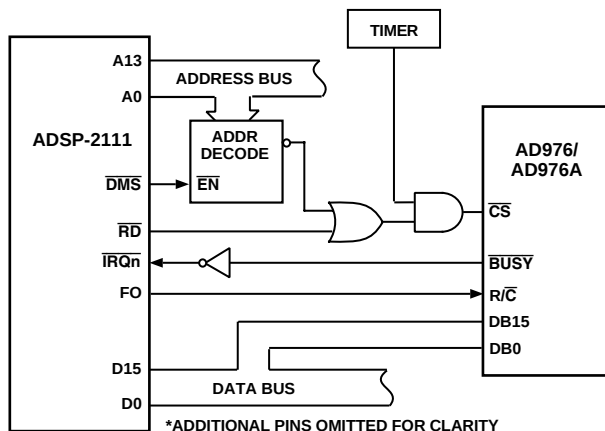

Figure 23. AD976/AD976A to ADSP-2111 Interface
Figure 23 shows an interface to the ADSP-2111 signal processor. In this example, $\overline{CS}$ is being used to control conversions and is generated by an external timer. A conversion is initiated each time the timer output goes low as long as you are not reading from the AD976/AD976A and while the Flag Output (FO) pin of the ADSP-2111 is low. When a conversion is complete, the $\overline{BUSY}$ line will return high. With the $\overline{IRQn}$ pin programmed to generate an interrupt on a high-to-low transition, an interrupt will occur at the end of each conversion. The 16-bit result of the conversion can be read from within the interrupt service routine by first forcing FO high, then performing a read operation with the AD976/AD976A.